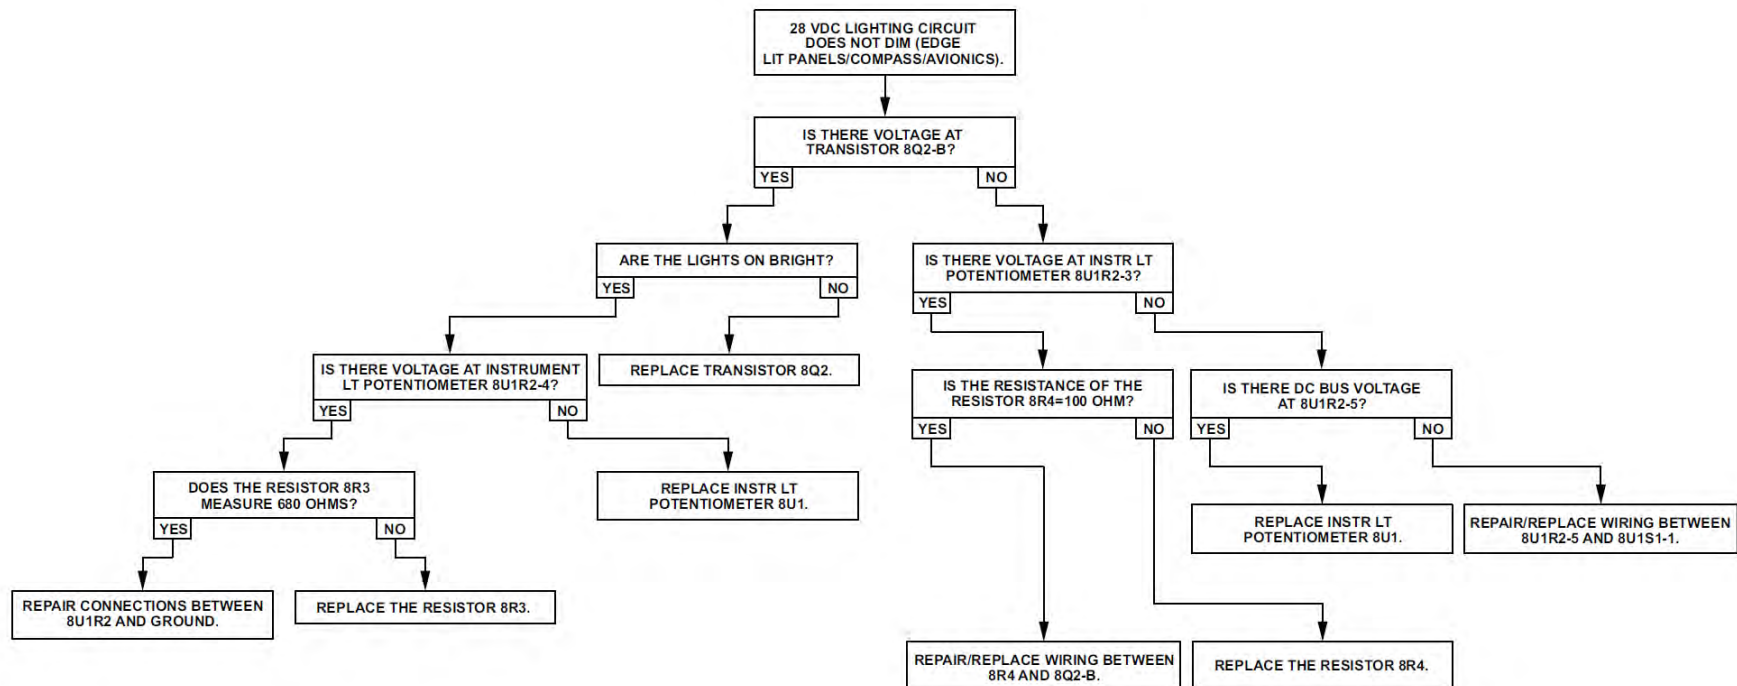

Figure 96-91: 5 VDC and 28 VDC Instrument/Control Panel Lighting Circuit – Trouble No. 2
- If the 28 VDC lights (edge lit panels/compass/ avionics) do not come on dimmed, refer to Trouble No. 2 (Figure 96-91).